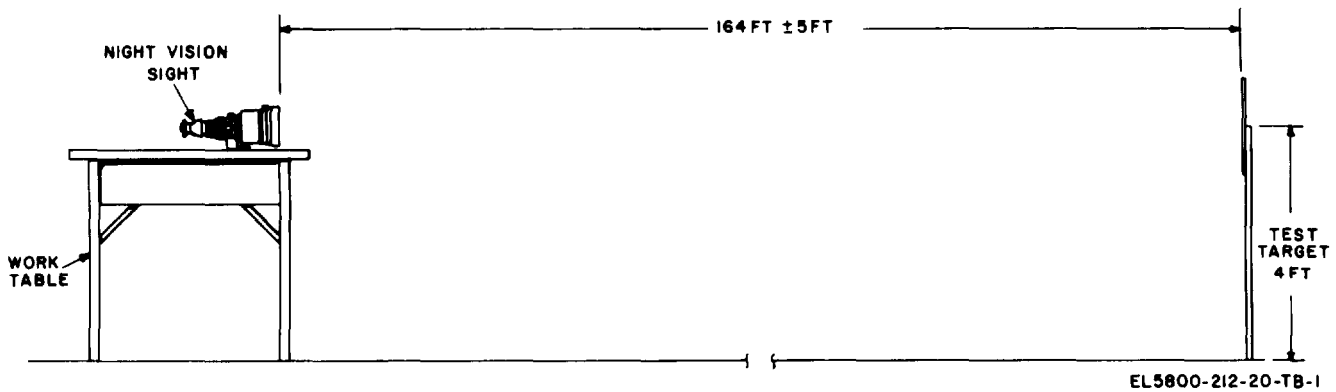

Figure 2. Test Range.
b. Dimensions. Refer to Figure 2. The test target may be nailed to a tree, post, or other support to provide a height above ground of approximately four feet.